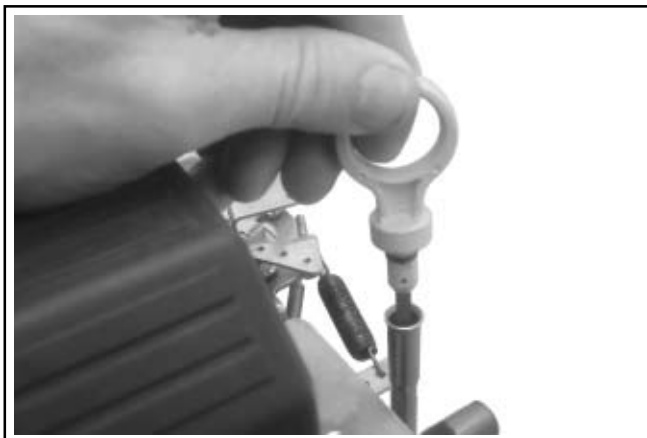

Figure 11-96. Reinstall the Dipstick in Tube.
5. Add oil to bring the level up to "F" mark and reinstall the dipstick. See Figure 11-96.